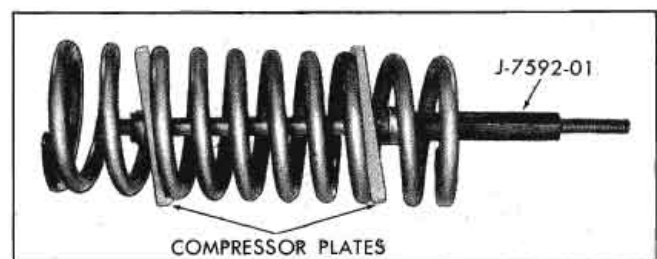

Fig. 3-18 Compressor J-7592 Inserted in Front Coil Spring
6. Install spring compressor J-7592 (Fig. 3-18).
NOTE: Plates must be parallel and radially aligned. Also, center of hole in plates must be aligned with center line of spring (Fig. 3-18).
10. If spring is to be replaced, assemble compressor J-7592 on new spring (Fig. 3-18).